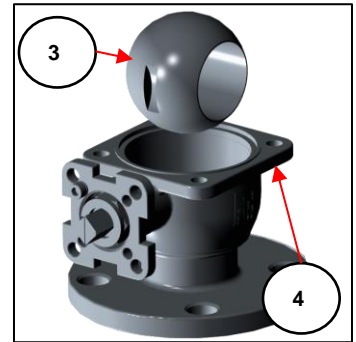

Figure 4-5
- 4.1.7 Reach both hands into the valve body (item 4) on either side of the valve ball (item 3). Lift the ball out of the body and set it on a padded surface. (Figure 4-5)